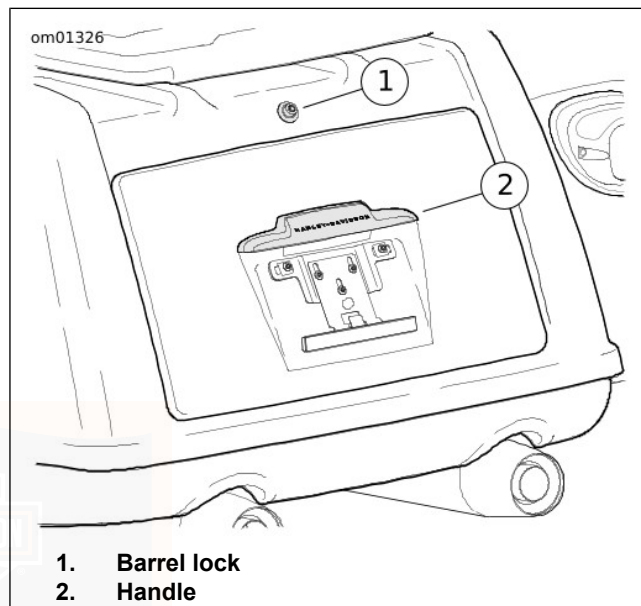

Figure 51. Trunk (typical)
2. See Figure 51. Push in the barrel lock to unlatch door. Pull handle to open trunk door.